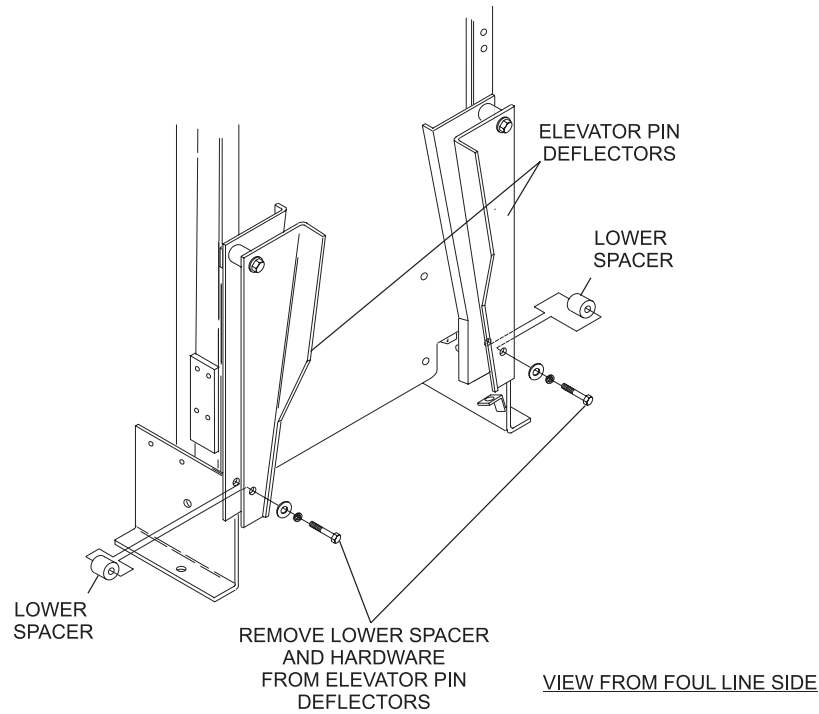

Figure 2.
- Remove the lower spacer and hardware from the elevator pin deflectors. Refer to *Figure 2*.